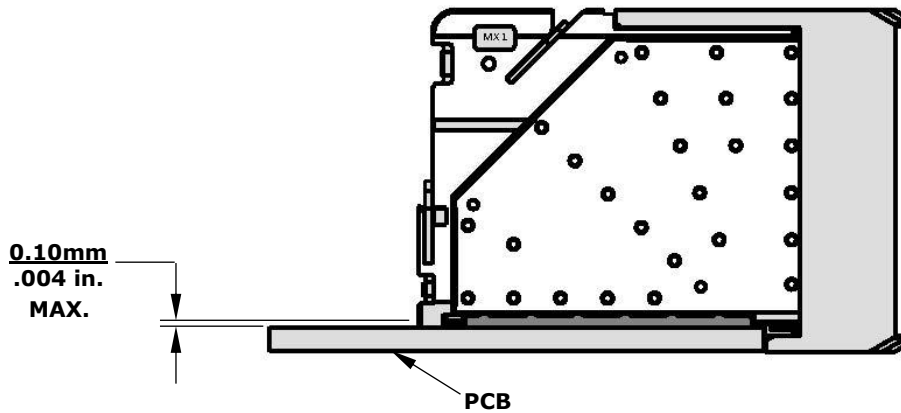

Figure 3
- Using the application tool and an appropriate press, seat the Orthogonal Direct RAM module until there is less than 0.10mm (.004") clearance between the bottom of the plastic housing and the surface of the PCB. See Figure 3.